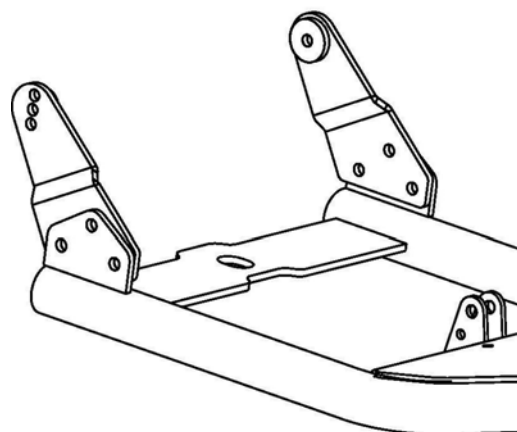

Figure 9
13. Finally install the plow mounting tabs to your Plow Tube Assembly with the jogged ends toward the center (narrowest configuration possible) shown in Figure 9. Install these loosely on the plow with the fasteners provided with the plow. Tighten the fasteners after the plow is assembled and installed in the mount according to the plow assembly instructions.